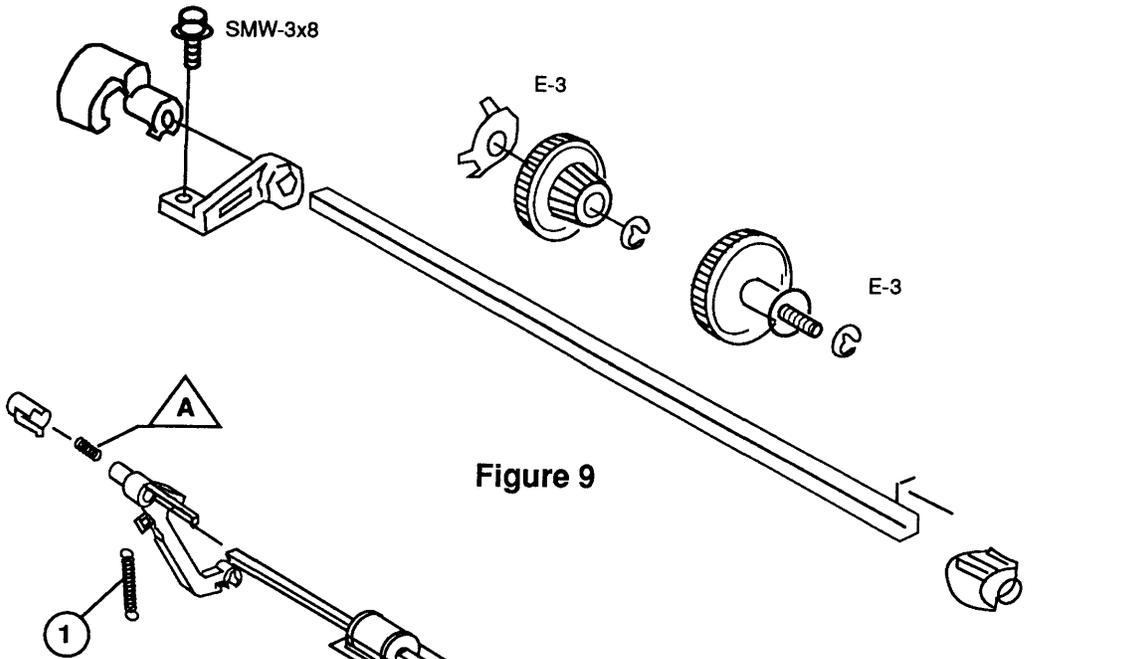

Figure 9
□ **SHIFT GEAR ASSEMBLY (Figure 9)**